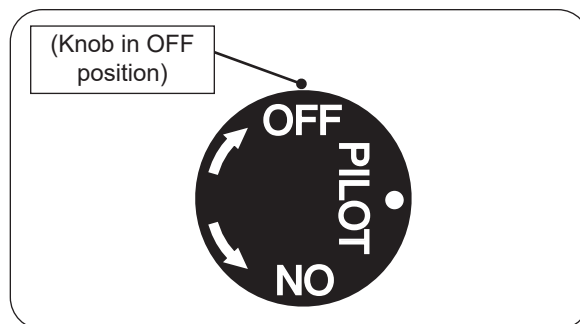

Fig. 44-2 Pilot shut down
2. Locate the valve on the side of the unit. Push in the gas control knob slightly and turn clockwise to **OFF** (see Fig. 44-2).
Push in the control knob slightly and turn clockwise to **OFF**. Do not force. See Fig. 44-2.